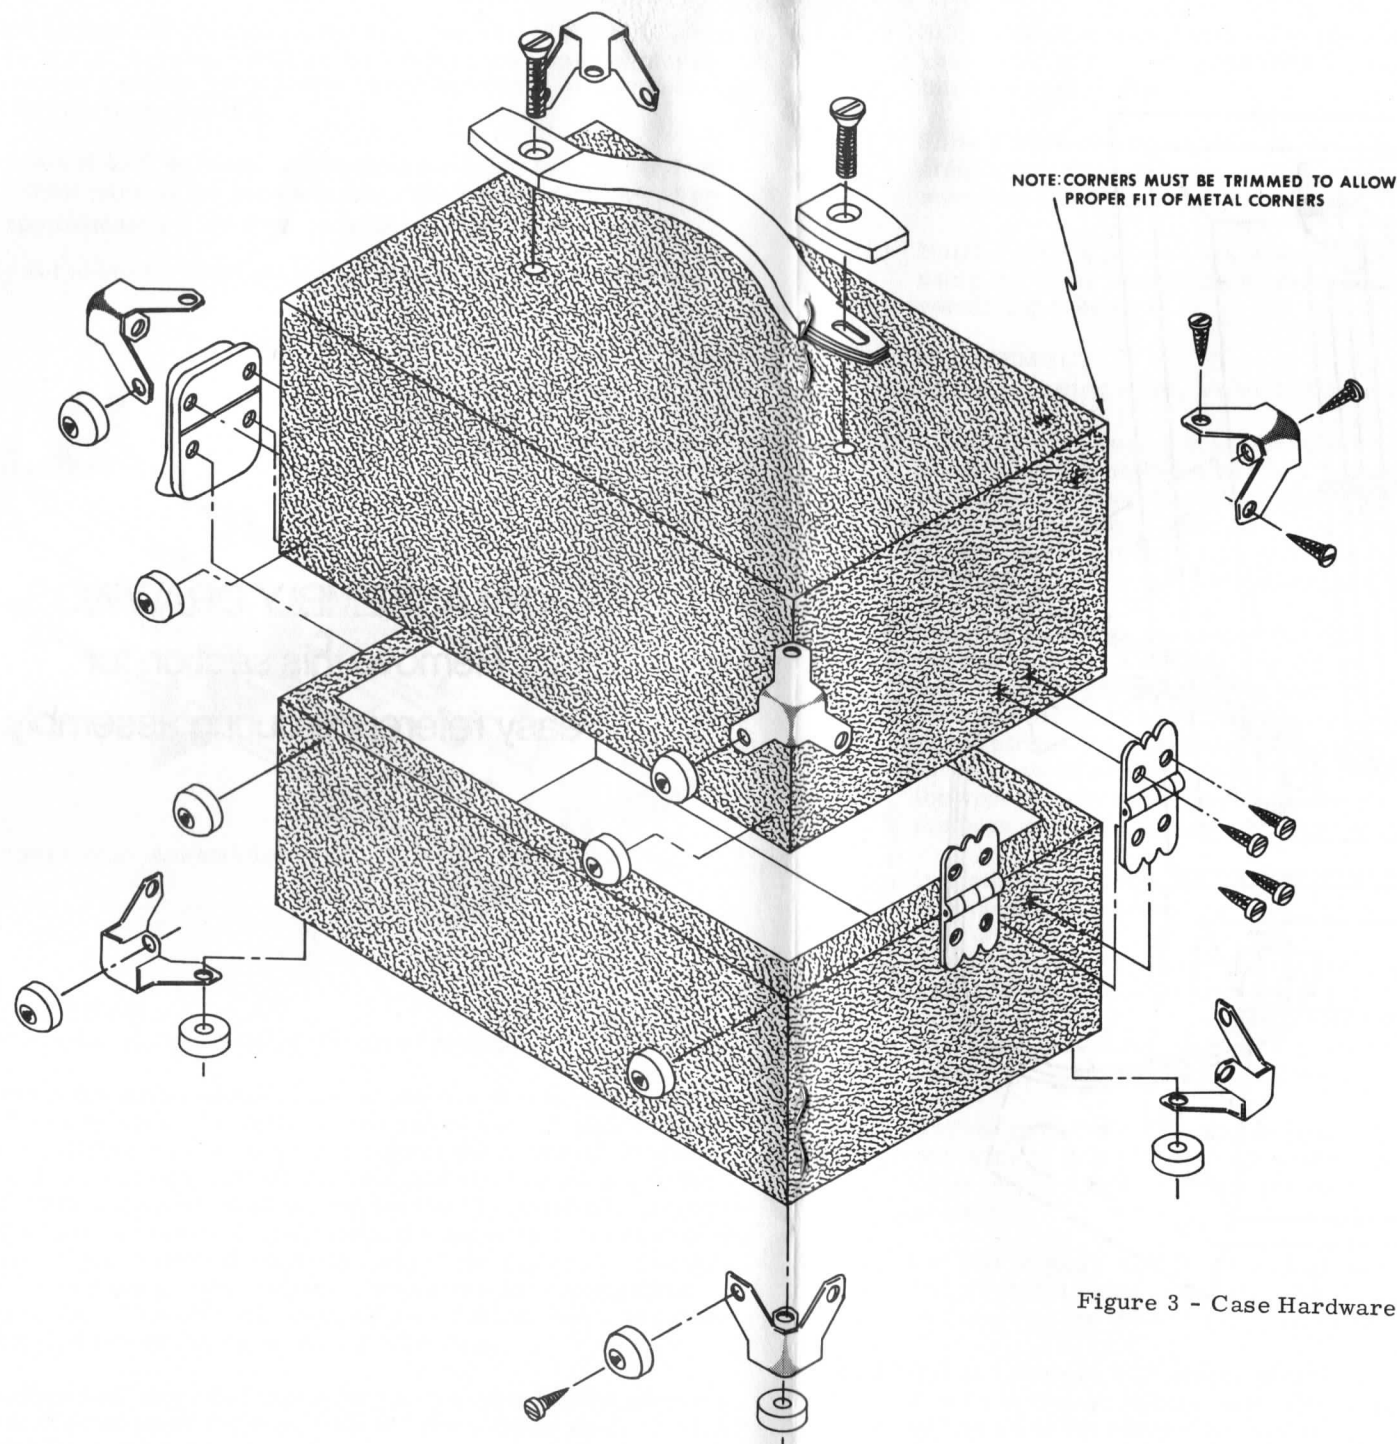

Figure 3 - Case Hardware Placement
During case assembly it may prove helpful to use a 1/16" drill or ice pick to produce pilot holes for any screws which go into the wooden case. Refer to figure 3 for proper case hardware placement.
- () Prepare the wood case for mounting the metal corners by trimming the FOUR REAR corners with a razor blade or sharp knife. (See figure 3.) This will allow the metal corners to mount flush against the case.
- () Using two #4 X 3/8" screws, mount the remaining two rubber feet near the front edge of the case bottom. The rubber feet should be located approximately 3/4" from each edge. (See figure 3.)
- () Close the wing cabinets and arbitrarily designate one of the units as the top half and the other as the bottom half. On the wing cabinet which is designated as the bottom, mount four rubber feet using the #4 X 3/8" screws which have already been used to mount the metal corners to the case back. (See figure 3.)